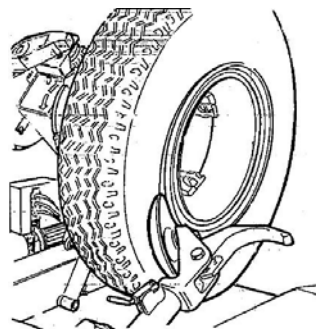

Fig.7.19
- 7) Put the split-ring on the rim and then install the locking ring with the help of the disk as shown in Fig.7.19.
- 9) Position the locking ring on the rim with the help of the disk as shown in Fig.7.19.